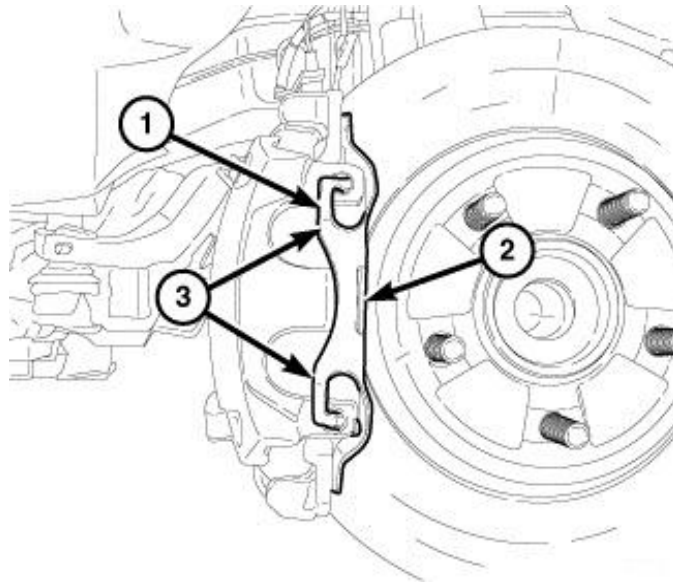

Fig. 1 Tension Clip Removal
3. Remove the brake caliper tension clip (1) by pressing rearward on the front of the clip (2) while pulling the clip out (3) from the caliper (Fig. 1).